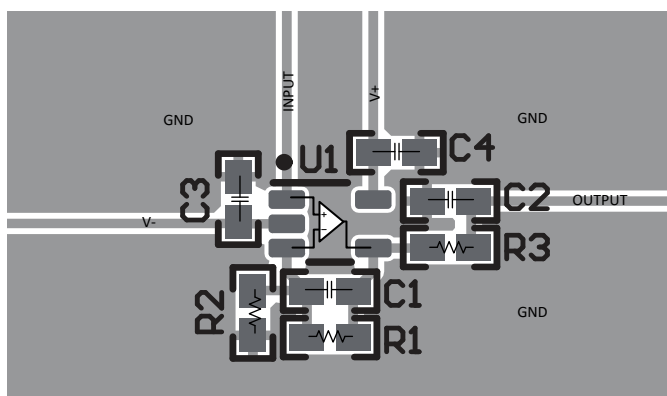

Figure 10-2. Operational Amplifier Board Layout for Noninverting Configuration - SC70 (DCK) Package
- Place the external components as close to the device as possible. As illustrated in Figure 10-2, keeping RF and RG close to the inverting input minimizes parasitic capacitance.